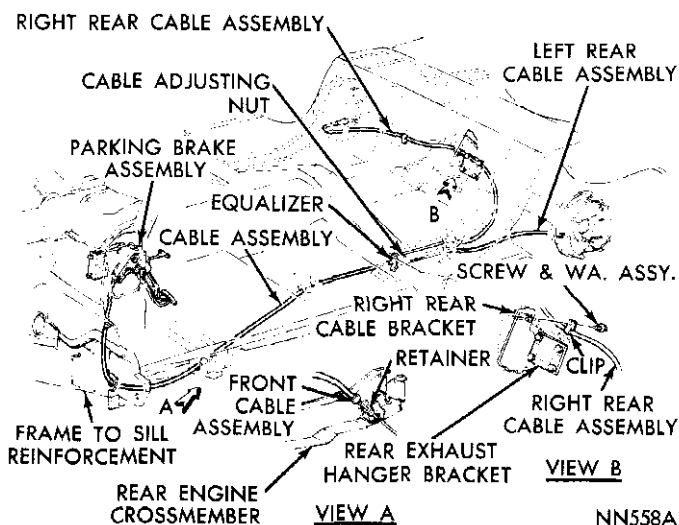

Fig. 1—Parking Brake Cable Routing (Barracuda and Satellite)
The wheel brake cables are joined together by a forward brake cable and equalizer extending to the parking brake pedal or release handle (Figs. 1, 2, 3 and 4).
(1) Release parking brake lever and loosen cable adjusting nut to insure cable is slack, (Figs. 1 or 2). Before loosening cable adjusting nut, clean threads with wire brush and lubricate with grease.
(2) Tighten cable adjusting nut until a slight drag is felt while rotating wheel, loosen cable adjusting nut until both rear wheels can be rotated freely, then back off cable adjusting nut two full turns.
(3) Apply parking brake several times, then release and test to see that rear wheels rotate freely without dragging.
The independent rear brake cables are attached to an equalizer (Fig. 1 or 2). The front cable is adjusted at the equalizer.
- (1) Disengage front parking brake cable from equalizer bar (Figs. 1 or 2).